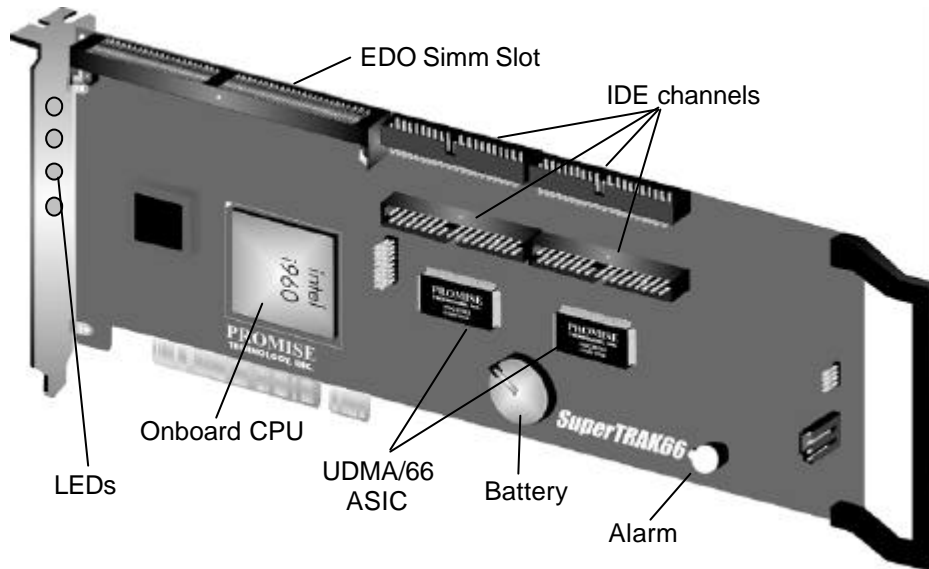

Figure 1: SuperTrak66 controller card
**NOTE:** The SuperTrak66 controller card ships with two removable protective labels that cover the audible alarm buzzer device (see Figure 1) and the battery (see Figure 1) which maintains the non-volatile RAM memory. These labels must be removed prior to installing the card.
Seen in Figure 1, the SuperTrak66 controller card has several physical features of interest for purposes of installation: A SIMM socket for EDO memory (minimum 8MB required), 4 IDE channel connections (1 “master” drive per channel), an alarm buzzer, a battery, and 4 LEDs on the card's backplane.
- 1) Install EDO memory into the SIMM slot at SIMM1 (see Figure 1). The minimum memory requirement is 8MB. For optimal performance, Promise recommends at least 16MB. Some units may ship with 16MB memory.
- 2) Remove protective label for 3V (CR2032 or compatible) battery shipped with the card (see Figure 1) that supports NVRAM.
- 3) Remove protective label for audible alarm buzzer (see Figure 1).